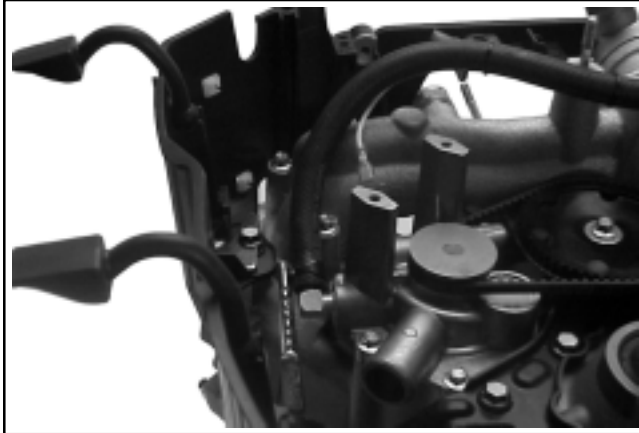

Figure 11-70. By-pass Hose Installation.
12. Attach the by-pass hose to the fitting on the water pump and secure with the hose clamp. The tangs of the clamp should point outward. Completed installation should look as shown in Figure 11-70.